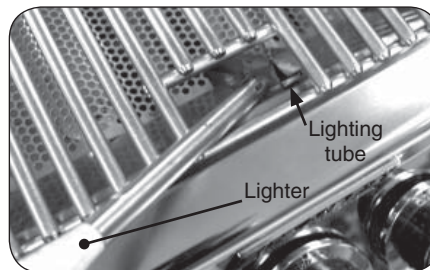

Fig. 17-2 - Manual lighting
4. Press and hold the ignitor button nearest the control knob for the burner to be lit. Continue to hold in the ignitor button for five (5) seconds. The tip of the ignitors will glow orange. Keep holding the ignitor button while depressing the control knob and turning the knob to the **HI LIGHT** position. Once the burner lights, release the ignitor button.
**CAUTION:** If a burner does not light within five (5) *seconds* of turning on the control knob, depress the knob and turn it to the **OFF** position. **WAIT FIVE (5) MINUTES** before repeating step 4. If you smell gas, follow the instructions on the cover of this manual. If the burners still do not light after several attempts, refer to the instructions for manual lighting.
**Note:** If the burner must be lighted manually, visually inspect the ignitor in the lighting tube (Fig. 17-2) while holding down the ignitor button. If it does not glow orange, check the electrical connections.
**CAUTION:** Always wait five (5) minutes for gas to clear after any unsuccessful lighting attempt.
2. Insert either a burning long-barrel butane lighter or a burning long-stem match through the cooking grid opening to the top of the lighting tube. (Fig. 17-2). For backburners, hold the flame against the perforated material of the backburner. For sideburners, hold the flame against the burner.
4. If the burner does not light, **immediately depress the knob and turn the valve to OFF. WAIT FIVE (5) MINUTES** before repeating steps 2 through 4 of the MANUAL LIGHTING instructions.